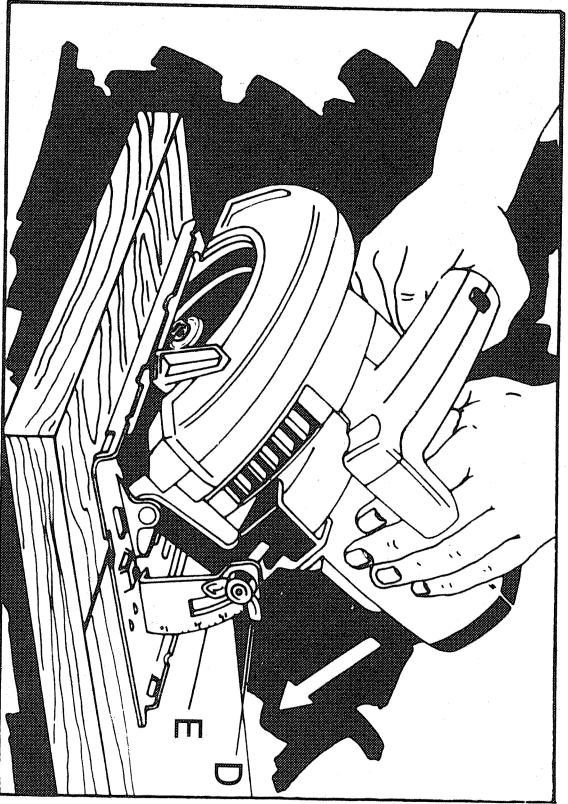

FIGURE 5
On the front of the saw is a bevel angle adjustment device (Figure 5) consisting of calibrated quadrant "E" and a wing nut "D". To set the saw for a bevel cut, loosen wing nut and tilt shoe to angle desired. Retighten wing nut firmly.
**CAUTION:** When making bevel cuts, place one hand on the motor housing as shown in Figure 5. Exert only enough pressure in the direction of the arrow to keep the saw shoe flat on the work. This will insure an accurate bevel cutting angle and help prevent the blade from binding in the cut.